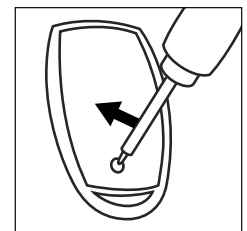

Fig. 4
- 4 Close the cover and screw it back on tightly (Fig. 4).